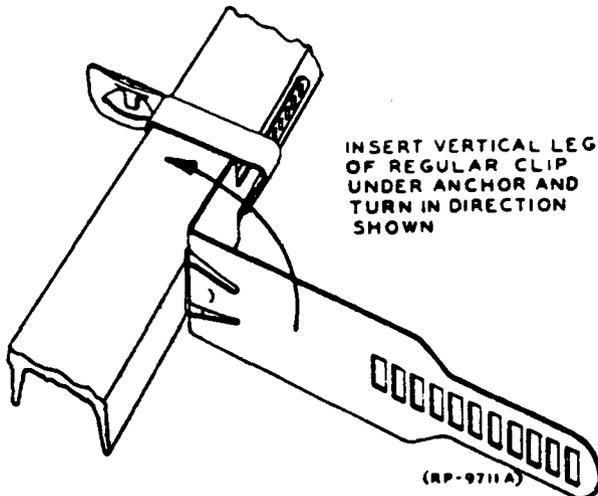

FIG. 6 REMOVING ANCHOR CLIPS (PAR. 4.31)
4.31 Anchor clips can be removed by placing a screwdriver or the vertical leg of a regular clip under the anchor and turning in the direction shown in Figure 6.